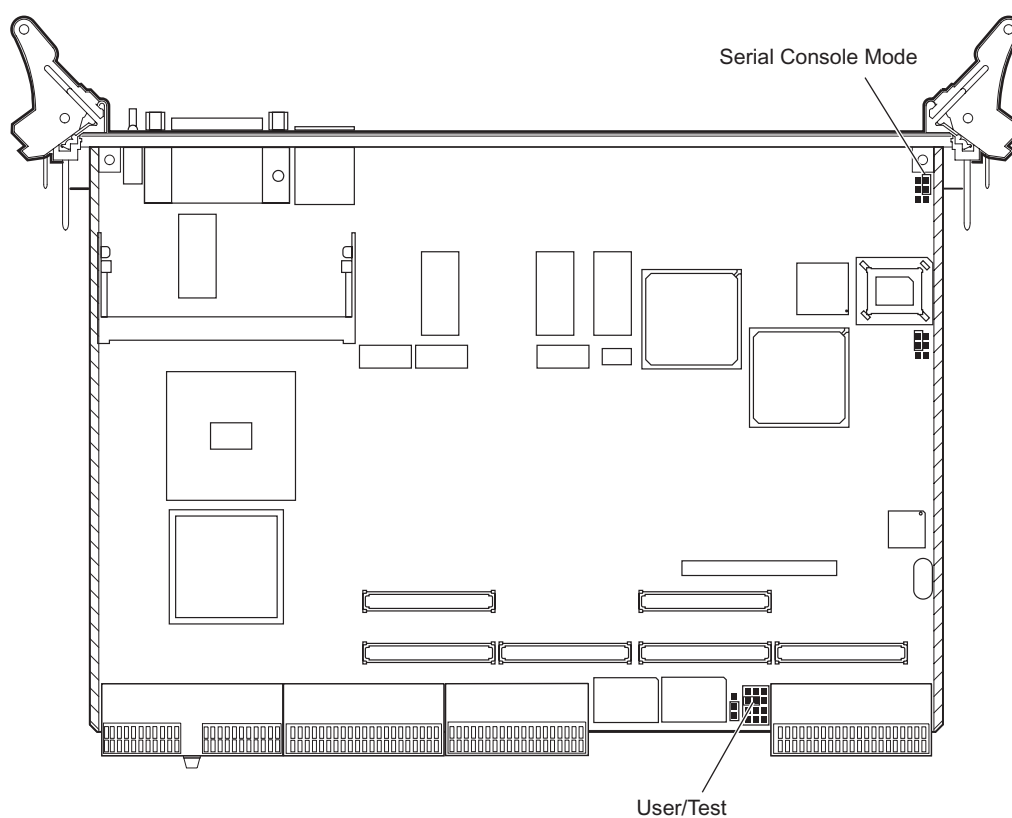

Figure 4.2 Concurrent 310 Jumper Configuration
- 2 Ensure that the jumper switches are configured as shown in Table 4.1. Figure 4.2 shows the location of the jumpers.